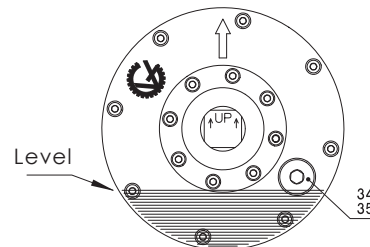

Fig. 3b
5. Refill the Drummotor with the recommended type and quantity of oil. The radial arrow on the drum endcap where the filler plug is located must point upwards to check for the correct oil level. With the arrow in the 12 o'clock position oil should just 'weep' out the filler plug hole (refer to Fig. 3b).